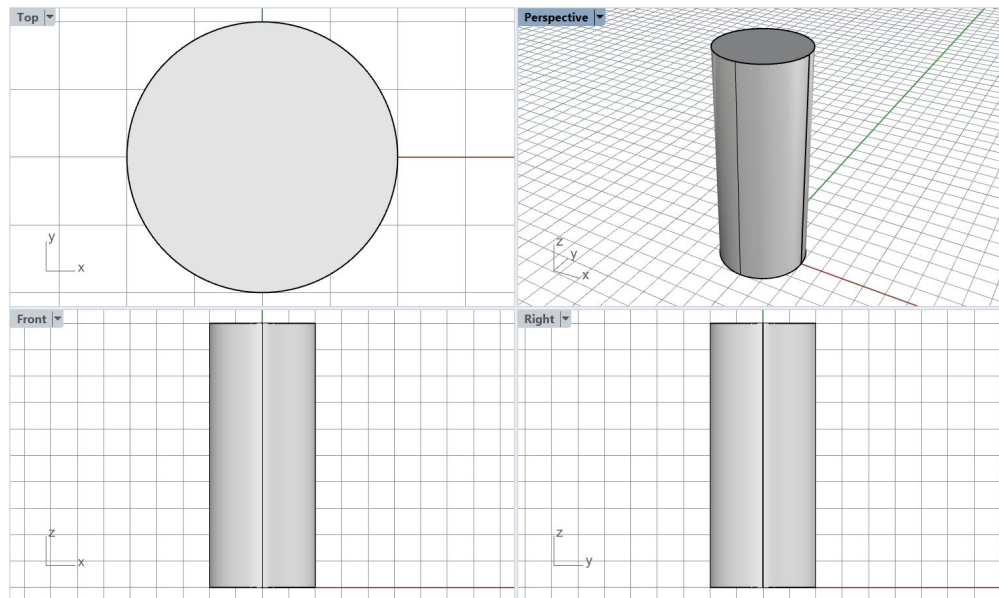

Figure 1: Solid representing a cylinder
3. Type the **\_Cylinder** command or select the **Solid** → **Cylinder** menu item. Type **0** and press **Enter** to set the location of the center of the cylinder base at the origin. Next, set the radius of the base to **2**. Enter **10** for the height of the cylinder. Press **Alt+Ctrl+E** to zoom out all viewports to the extent of all objects (or navigate to **View** → **Zoom** → **Zoom Extents All**). This completes construction of the geometry for a simple vertical cylinder (Figure 1).